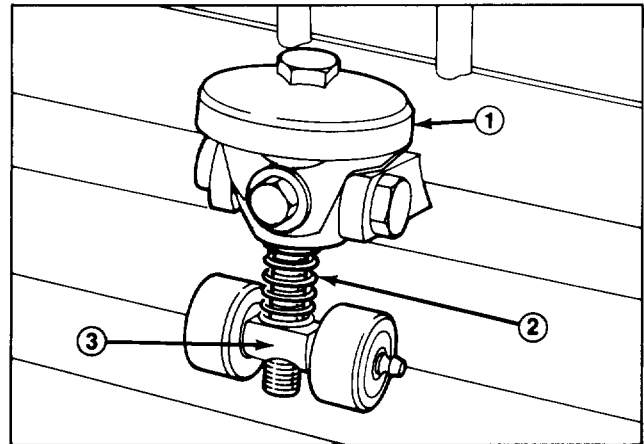

Figure 21
2. On either end of front side of reel, insert a long strip of newspaper between reel and bedknife. While slowly rotating reel forward, turn bedknife adjusting knob (Fig. 21) clockwise, one click at a time, until paper is pinched lightly, which results in a slight drag when paper is pulled.